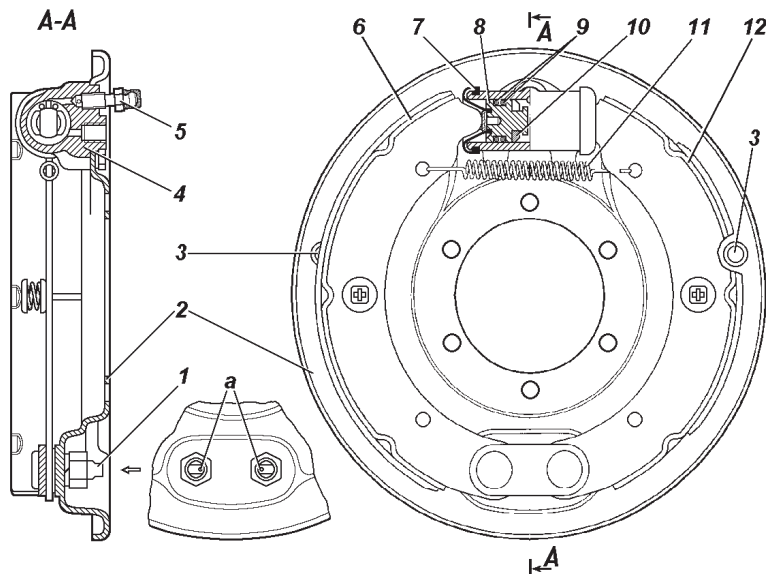

Fig. 9.29. Rear Wheel Brake:
**Rear Drum Brakes (Fig. 9.29).** Periodically remove brake drums and clean the brake parts from dust and dirt. The cleaning frequency depends on vehicle operation conditions. Clean the drums more often in summer and when driving dirty roads and rarer in winter.